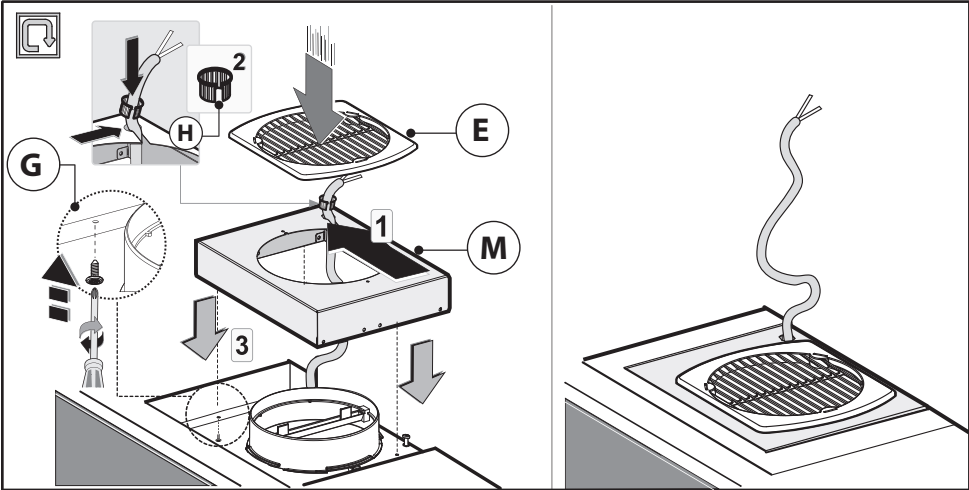

Fig.6
- Pass the power supply cable through the slots of the small cupola **M** as shown in Fig. 6.
- Fasten the small cupola **M** and the grille **E** making sure that it is perfectly hooked on to the fastening pins **G (Fig. 6)**.